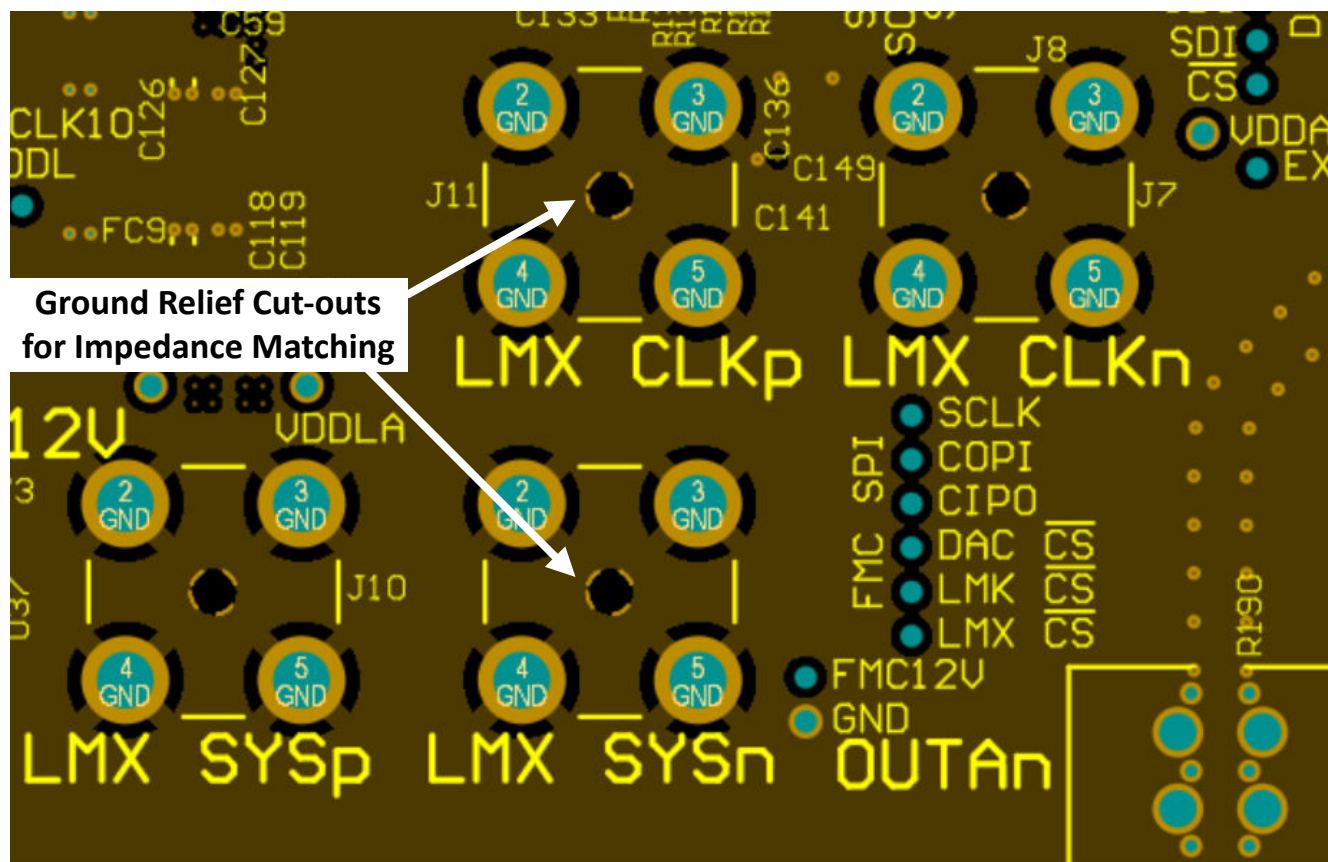

図 8-25. Ground Cut-out Below SMA Connector Center Pin
5. Incorporate any ground plane cutouts necessary at component landing pads, ie – SMA connectors, baluns, etc., to avoid impedance discontinuities at these locations. Cut-outs below these landing pads on one or multiple ground planes to achieve a pad size or stackup height that achieves the needed 50-Ω, single-ended impedance. See Fig 8-24 and Fig 8-25 as an examples.